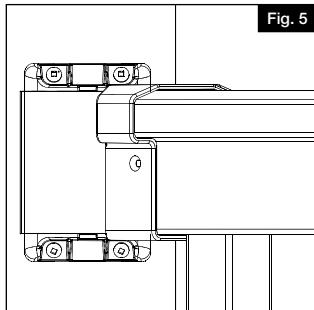

Fig. 5
- c. Place assembled stair rail section adjacent to the mounted stair posts (Fig 3). Measure the distance from the first and last baluster to the top and bottom posts making sure distance is equal on both sides of stair rail section (Fig 4). Clamp into place (Fig 5).
Attach each top rail bracket with four #10 x 2" screws (Fig 5). Attach each bottom rail bracket with four #10 x 1 $\frac{1}{2}$ " screws.